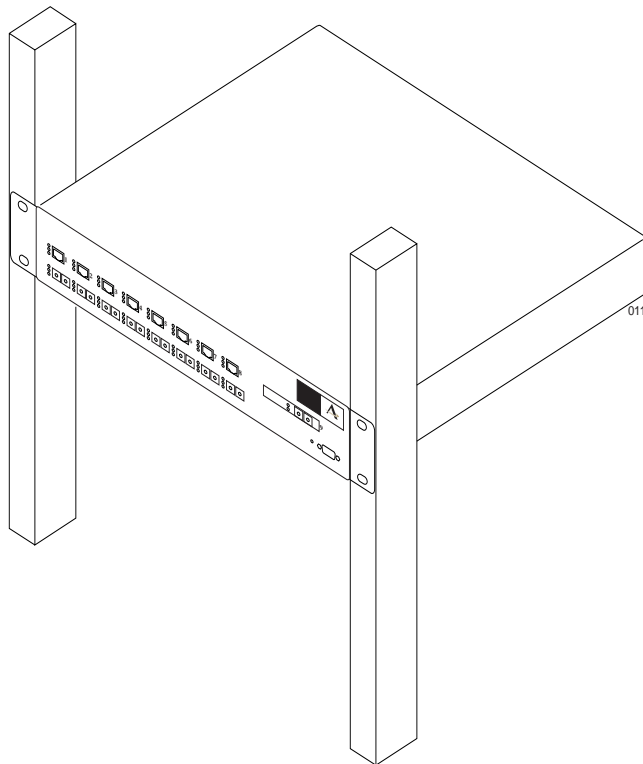

Figure 4 Rack-Mounted ACEdirector 4
2. Then, install the switch as shown in Figure 4 using the appropriate screws for your rack-mount system (four 10-32, 12-24, M5X.8-6H, or M6X1-6H type screws).